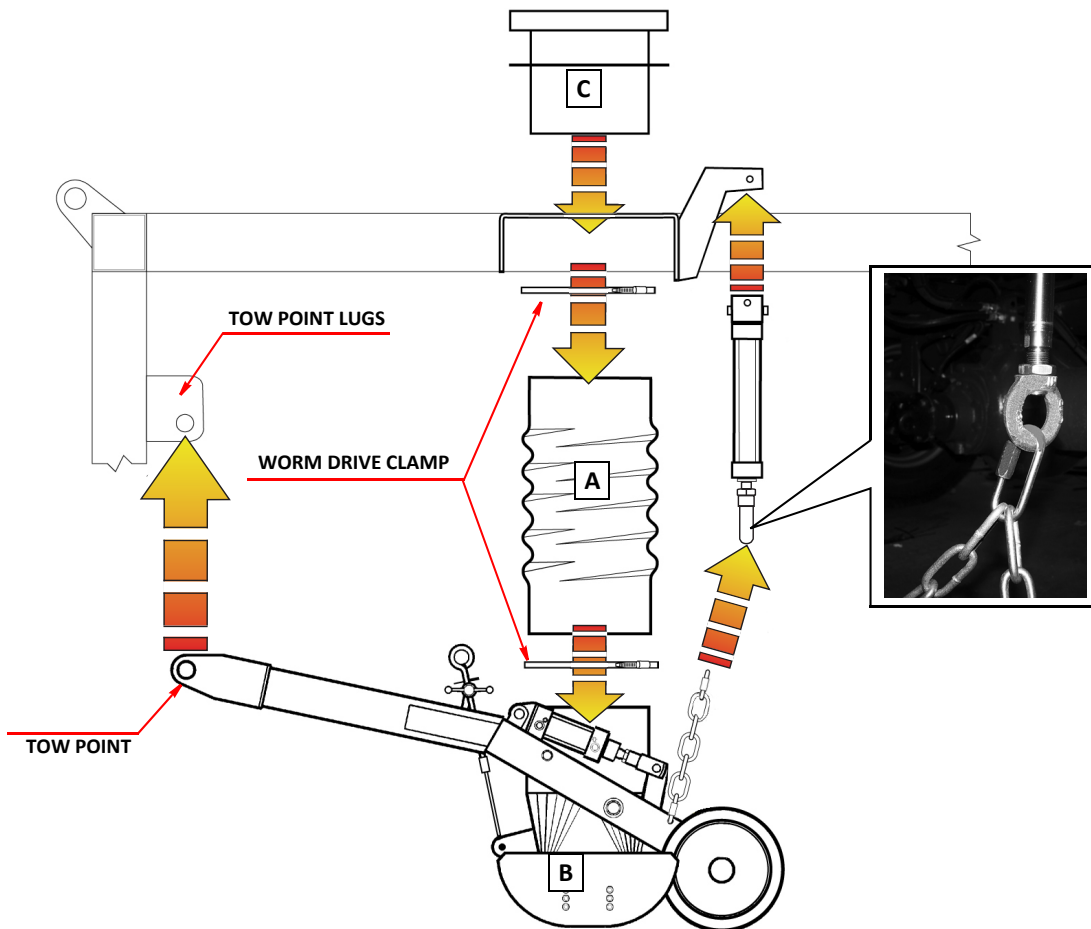

Figure 14 - Suction nozzle attachment
1. Fit flexible tube (A) over the upper section of suction box (B), ensuring an overlap of at least 150mm. Secure with an appropriate sized worm drive hose clamp.
2. Position a second worm drive hose clamp loosely over the upper section of tube (A).
3. Position unit (B) as illustrated in Figure 14. Raise the tow bar to position it between the lugs of the tow point, apply a layer of copper-based grease to a M20 x 110mm bolt and insert into the tow point.
5. Position the suction spigot (C) and any shims in its mounting on the subframe so that it fits into the upper section of the tube (A), secure with 4 x M12 x 35mm long bolts and M12 self-locking nuts.
6. Attach the lifting chains to the pneumatic cylinder as shown in Figure 14, ensuring the carabiner is completely closed.